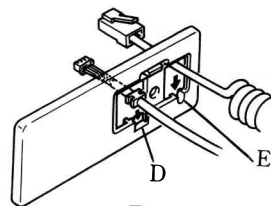

Fig.5
7. Fit the cord bush on the panel cable into the front panel (Fig.5-D), fix the panel cable, and install the cover. (Fig.4-A)